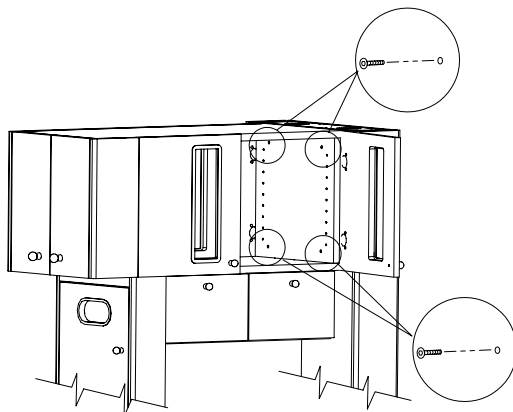

FIGURE 5C
Join upper storage to the utility column by fastening (4) 1/4-20 x 1 1/4" joint connector bolts from inside the upper storage. See Figure 5C.